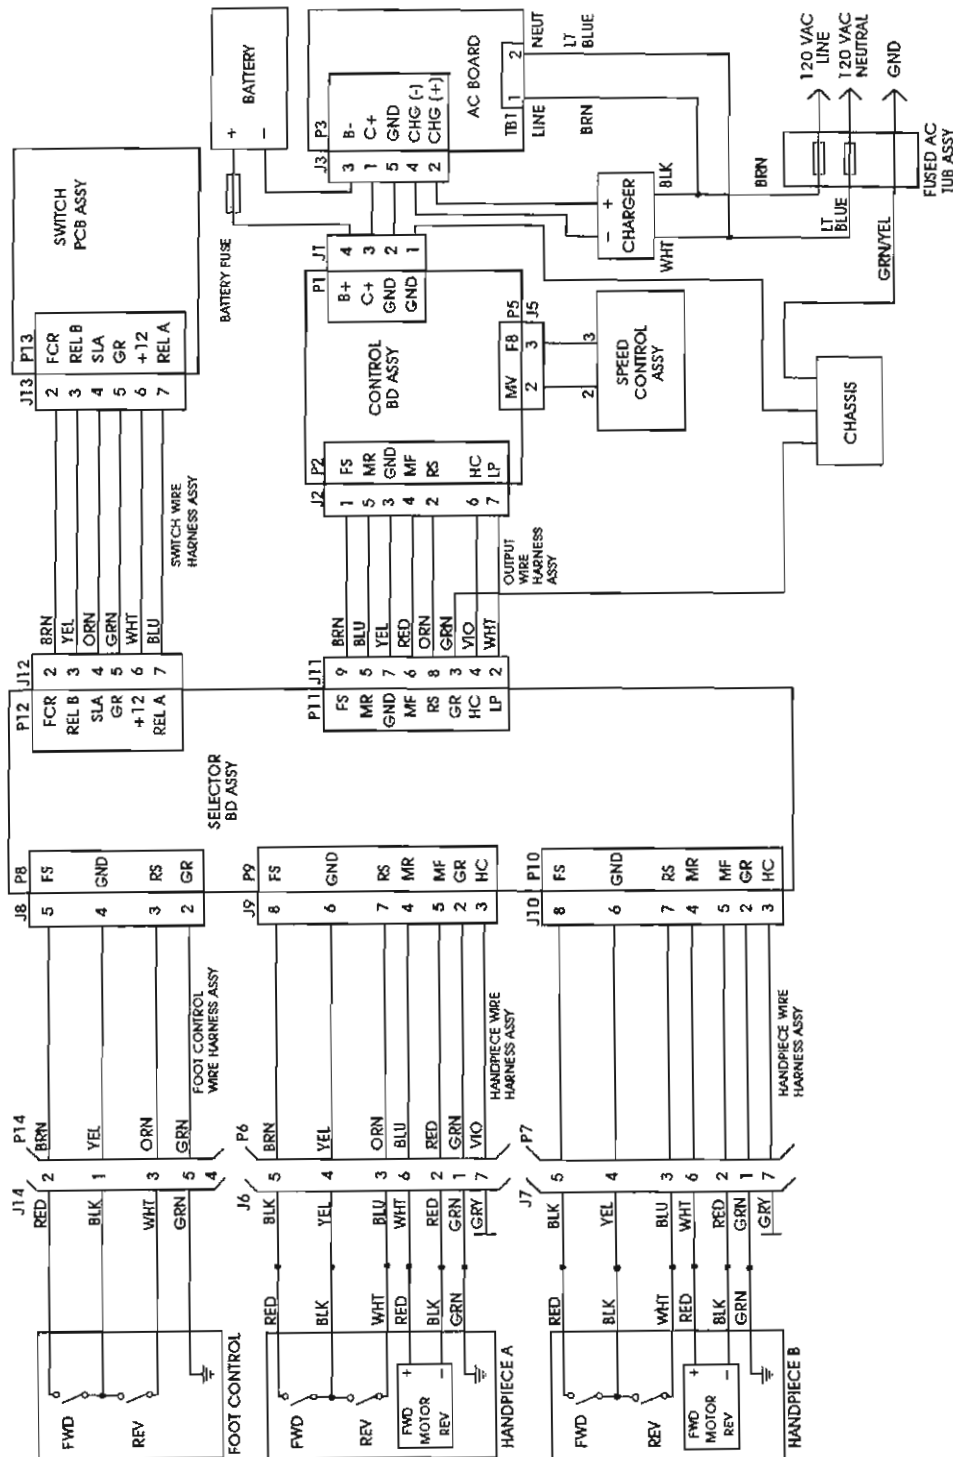

Figure 3-1. Wiring diagram.
b. A wiring diagram for troubleshooting is provided in figure 3-1.
This general wiring diagram shows the connectors and cabling that joins the various PCBs and sub-assemblies. (Refer to figure 3-1.)